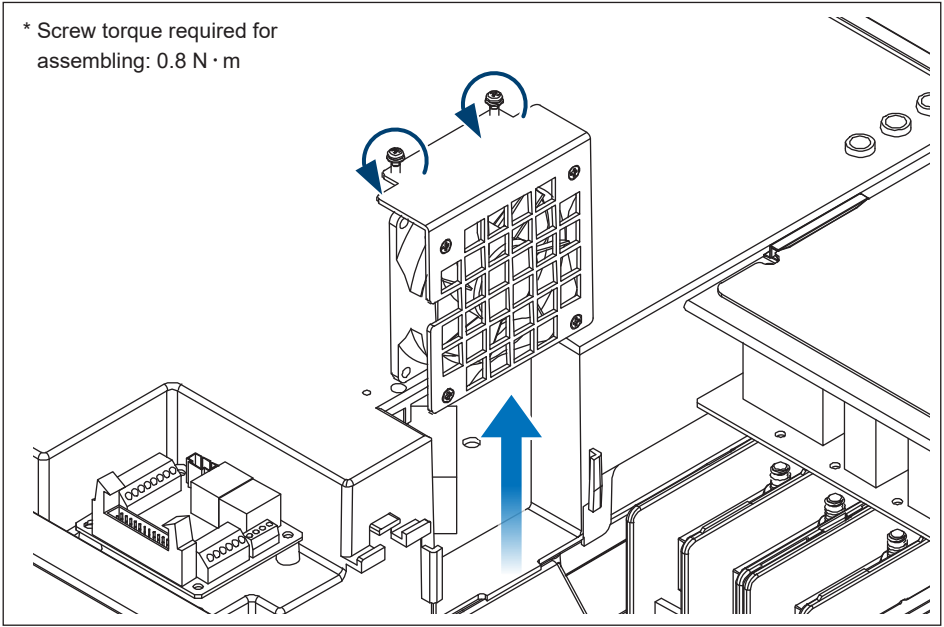

Figure 5-14: Take off the internal fan 2
- (2) Loose 2 self-retaining screws and remove the fan cabinet. (**Figure 5-14**)